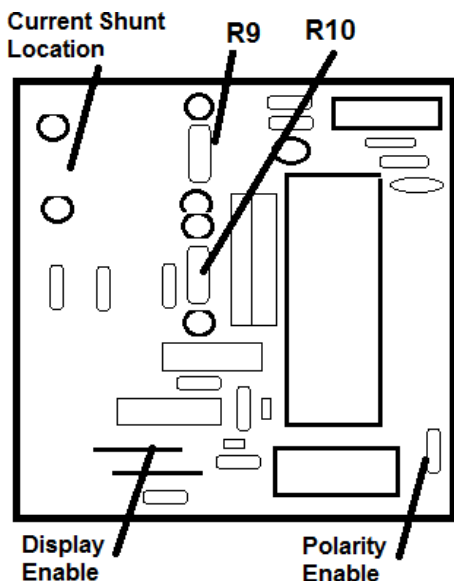

FIGURE 4
Polarity / Display: Blanking or dimming. The polarity is energized via a resistor on the board assembly. See **Figure 4**.
- Install resistors specified in **Table 1** to attain desired range. See **figure 4** for component location. Note that these components should be placed in the lower board assembly.
A shunt resistor may be plugged into the terminals shown in **Figure 4** to permit current measurement. Alternatively, an external shunt resistor may be connected between signal high and signal low. For current measurement, the meter should be connected in the 200mV or 2V range, depending upon the full-scale voltage drop which can be tolerated. **Table II** shows the shunt resistor value required. The accuracy of the measurement will be determined largely by the accuracy of the shunt resistor.